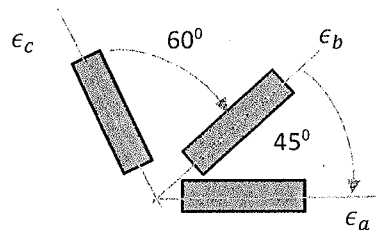

Figure Q5
- (iii) The stress state of a certain steel components was determined using a strain rosette as shown in Figure Q5. Due to the loadings, strain gauges gave strain values as $\epsilon_a = 60 \mu\epsilon$, $\epsilon_b = 100 \mu\epsilon$, $\epsilon_c = 120 \mu\epsilon$.